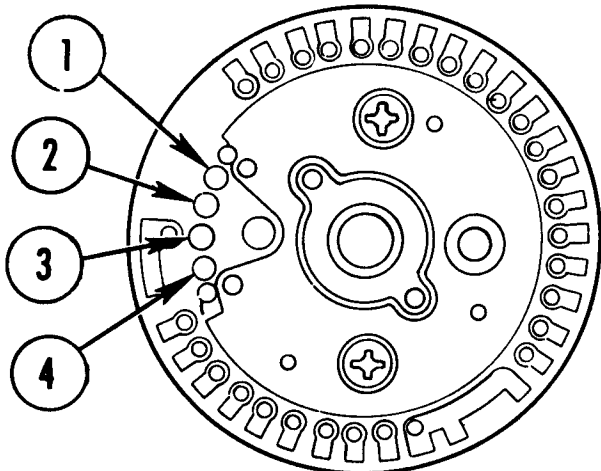
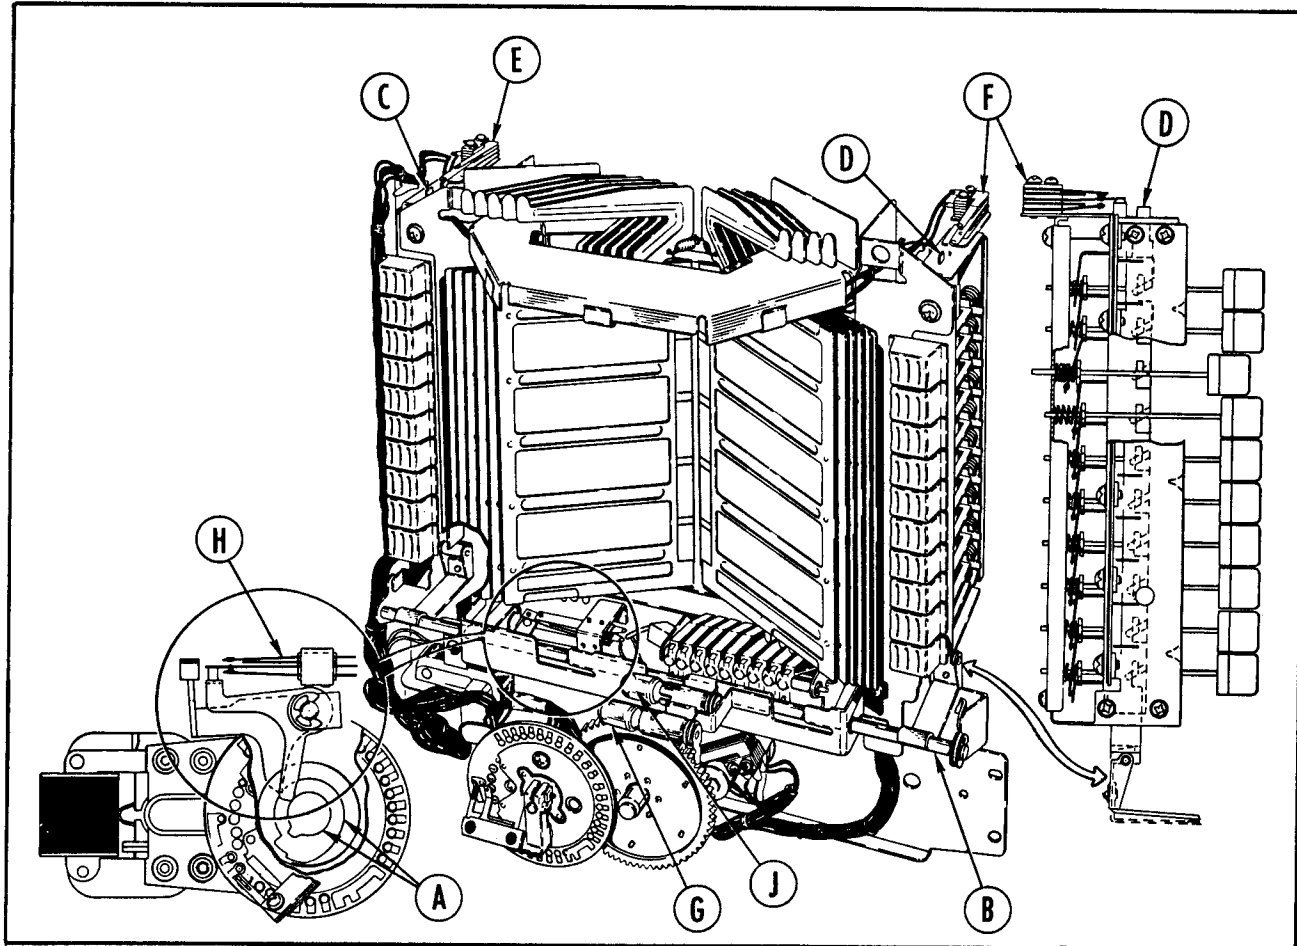

FIGURE 4.
FIGURE 5.
to the motor will be completed through the WIPER ARM blades and the first two of a group of four large rivets on the COMMUTATOR DISC. (See Fig. 4). The motor will run until the WIPER ARM blade moves off the second rivet and onto the third. This breaks the circuit and the motor will stop. This position of all moving parts is called the "credit position". At this point, an eccentric CAM (See Fig. 5, (A) on the motor shaft actuates a SHAFT AND LEVER ASSEMBLY (B) which in turn operates the latch bars (C) & (D) in the PUSHBUTTON SWITCH BANKS. Pushing a pushbutton now will result in its being latched in.